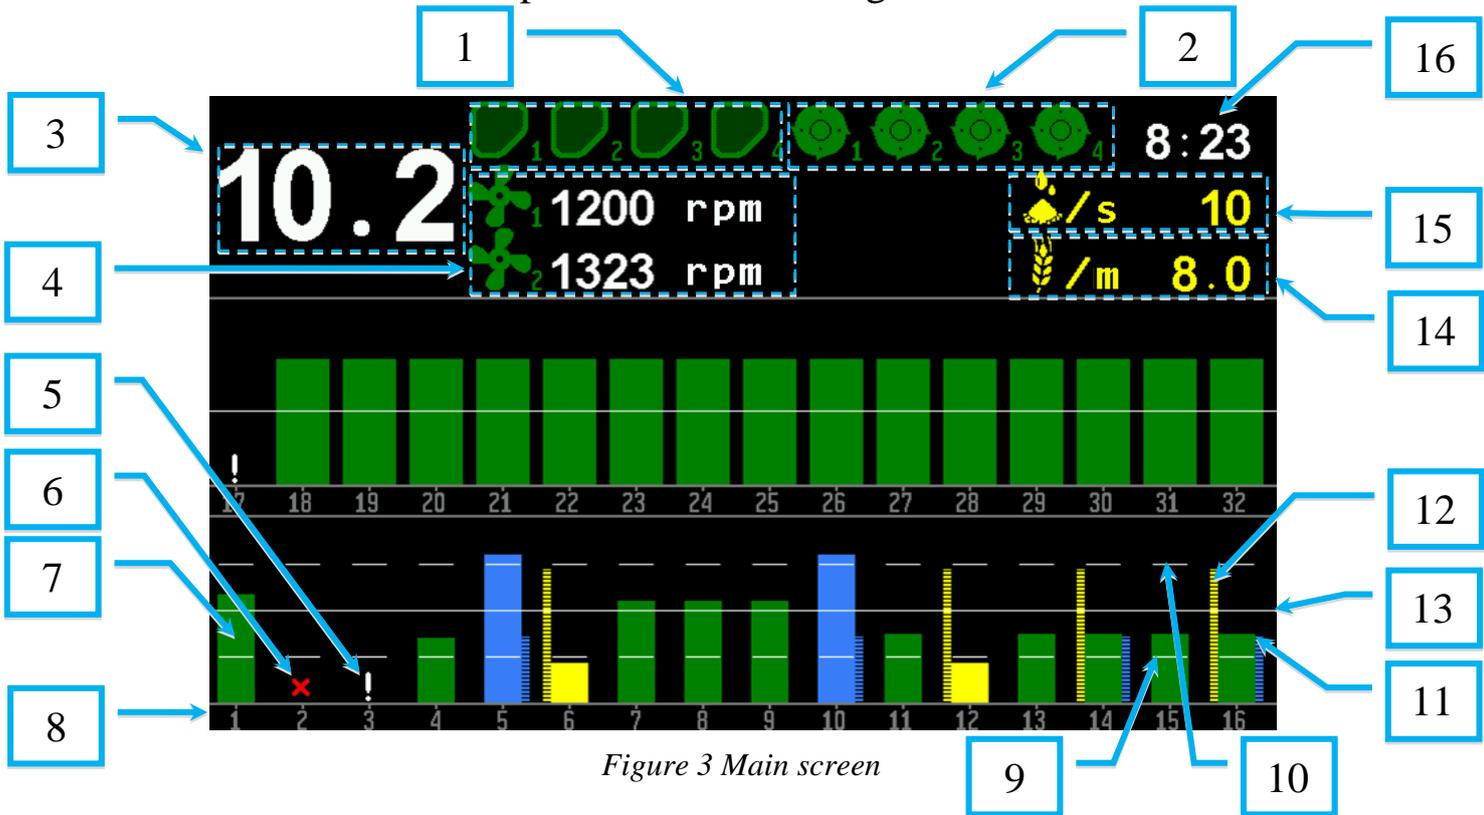

Figure 3 Main screen
- Main screen, see Figure 3.
Then the main screen appears (see Figure 3) and the system is ready to work.
Main screen of the control panel is shown in Figure 3.